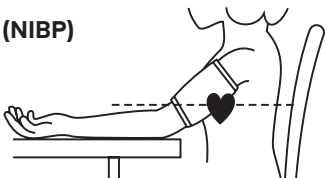

Fig. 4.4
- Apply the cuff to the patient's arm (Fig.4.4.)